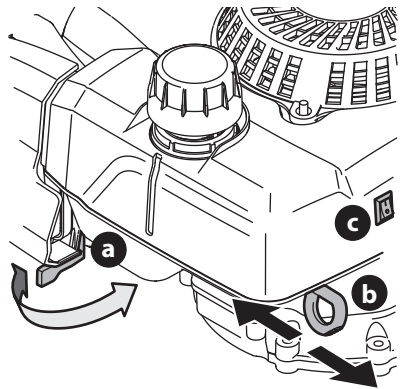

Figure 7
1. If equipped, ensure the fuel shut-off valve (a) is in the "ON" position (Figure 7).
3. Press engine switch (c) to "ON" (Figure 7).